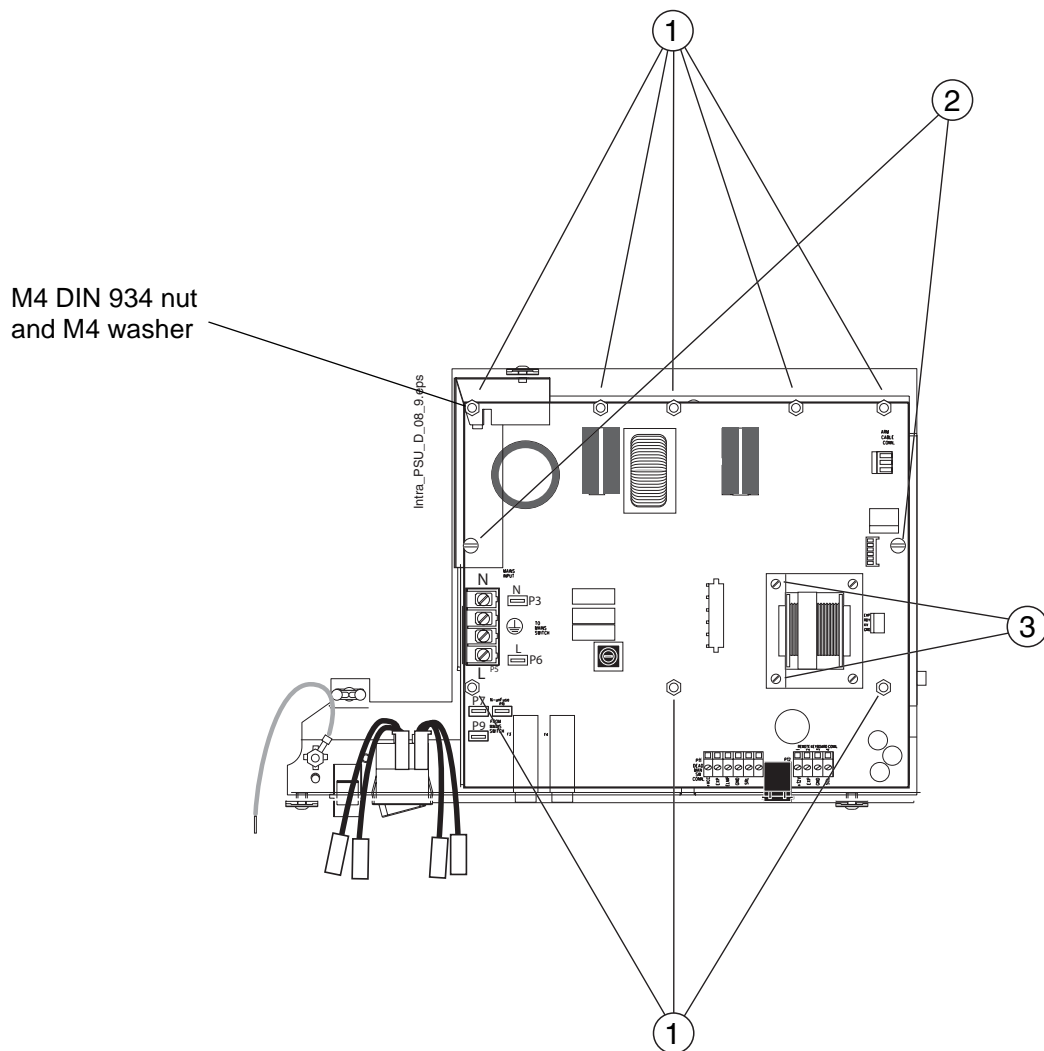

Figure 15
5. Remove the eight M4 DIN 934 attachment nuts and $\varnothing 4.3$ DIN 6798 washers from the Generator PCB (figure 15, 1). Unscrew the two M4x8 DIN 84 screws (figure 15, 2). Lift the generator assembly away from the wall adapter and open the two M3x6 DIN 912 screws located behind the generator assembly frame (figure 15, 3).